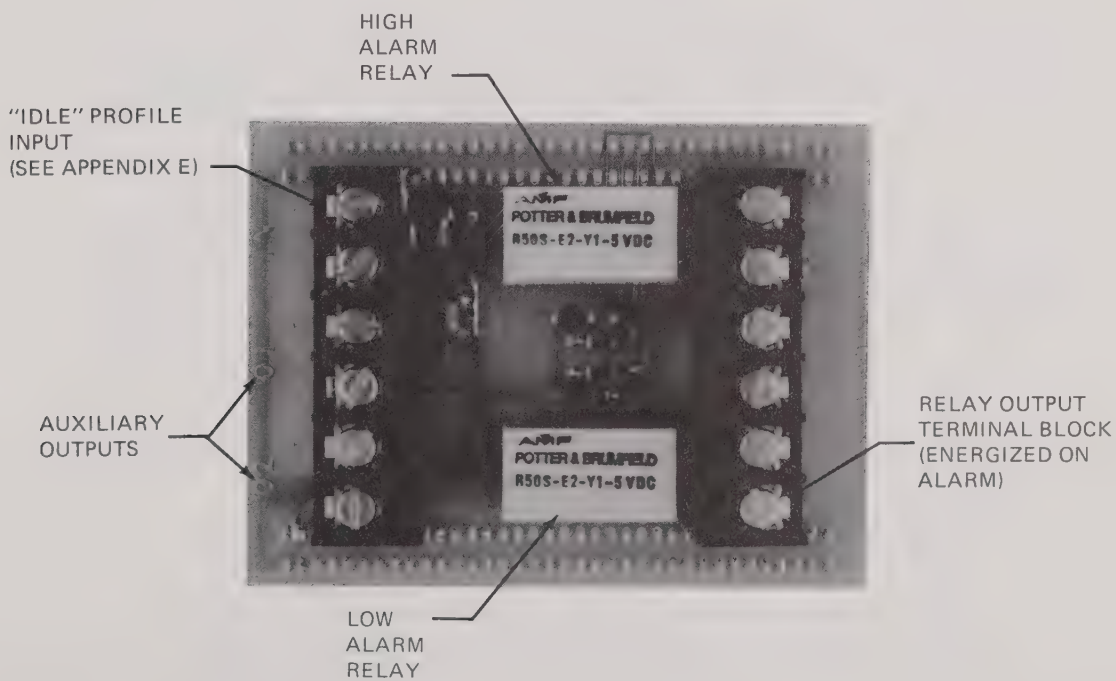

Figure 2.14 - Alarm Card
- 2.2.11 Alarm Card (See Figure 2.14) The alarm card contains two SPDT relays which are activated by the microprocessor in the event of a high or low limit alarm condition. A 6-pole terminal block is provided for customer connection. Figure 2-14 illustrates the pin functions.